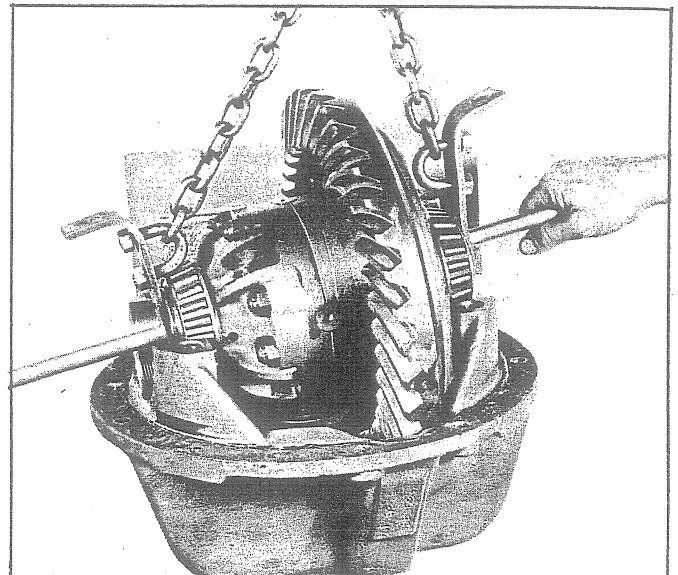

Fig. 64 - Installing Differential into Housing
15. Position the differential into the housing as shown in Fig. 64.